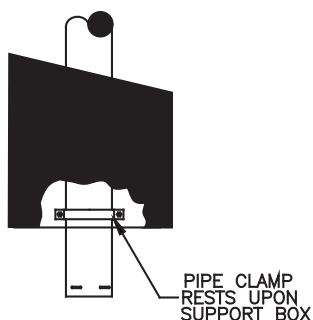

Figure 33
8. Place the Support Clamp, included with Support Box, loosely around Pipe Sections running through hole in Support Box (**Figure 33**).
10. After all Secure Pellet Pipe Sections and components are assembled and connected down to the appliance seal and secure the Appliance Adapter to stove. Using a level, make slight adjustments in the position of the appliance until the pipe is truly vertical. Tighten the bolts in the Support Clamp (**Figure 33**).